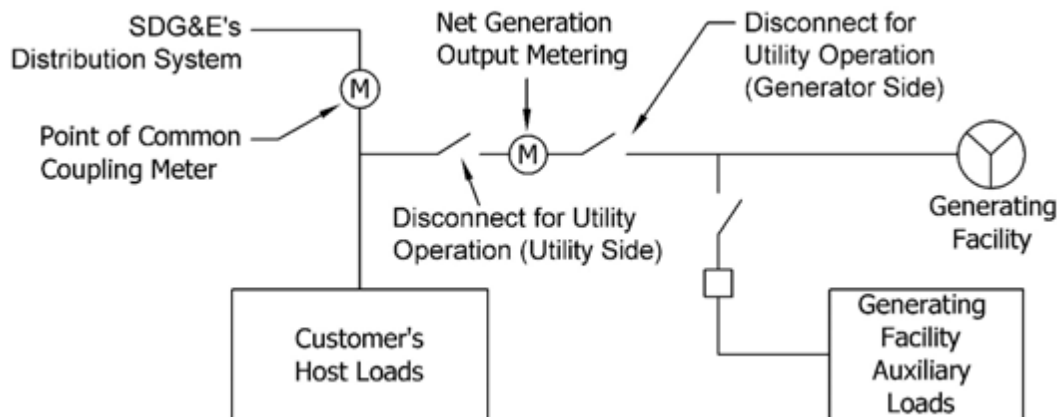

FIGURE 1
A NGOM is always installed in the electrical circuitry used to interconnect a customer's generating facility with host load. More specifically, it is located in the circuitry at a location after any connections used to serve the "auxiliary loads" used to operate the generating facility, but before any connection to the host load. See Figures 1 and 2 below:
Notes to Figures 1 and 2:
- ① For metering purposes, the generator conductors shall be connected to the line side of the NGOM socket.
- ② For bus taps, see page SG 517.1.
- ③ NGOM panels and devices are normally required to be grouped with the billing meter at the PCC (also referred to as the service and metering equipment).
- ④ Visible, open, and lockable disconnects are required on each side of the NGOM except as noted in Figures 1 and 2. See pages SG 511.1 – 511.3 for disconnect requirements.
- ⑤ A site placard is required at the service and metering equipment. See page SG 017.1 for site placard requirements. If NGOM is not located in line of site of the service and metering equipment, an additional site placard is required on the NGOM denoting the location of the service and metering equipment.
- ⑥ An address placard is required on the front of the NGOM panel.
- ⑦ A placard shall be installed on the Utility side disconnect labeled: "PV (or WT) SYSTEM DISCONNECT FOR UTILITY OPERATION – UTILITY SIDE."
- ⑧ A placard shall be installed on the generator side disconnect labeled: "PV (or WT) SYSTEM DISCONNECT FOR UTILITY OPERATION – GENERATOR SIDE."
- ⑨ Conductors terminating in the NGOM panel shall be labeled "UTILITY" AND "GENERATOR".
- ⑩ For instrument transformer rated CT NGOM panels, a "CURRENT FLOW" placard with an arrow pointing towards the utility side disconnect shall be installed on the inside side wall of panel or on the outside front of NGOM panel.
- ⑪ In no case shall any of the host load be connected to the generator side of a NGOM panel.